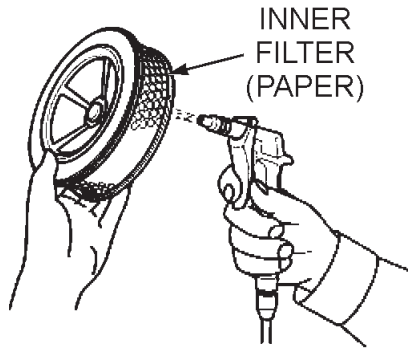

**Figure 29. Air Filter Components**
1. Release the latch tabs (Figure 29) on each side of the air cleaner cover, and remove cover.